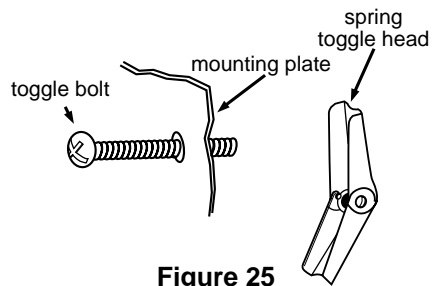

Figure 25
2. Prepare the toggle bolts by putting the bolts through the corner holes and attaching a spring toggle head to the end of each toggle bolt as shown in Figure 25.